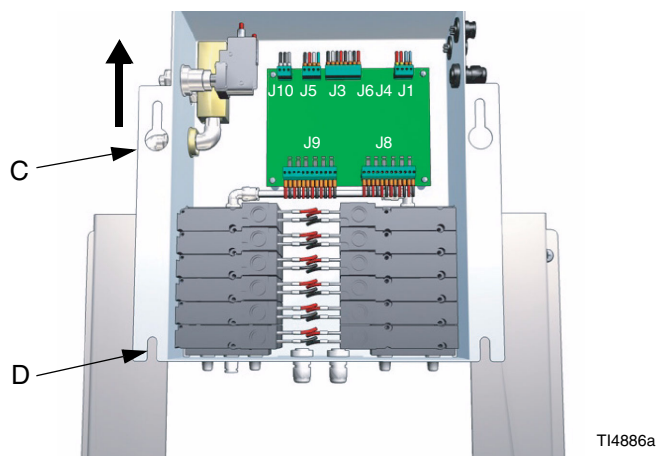

FIG. 2
5. Slide the panel (C) until its bottom slots (D) align with the top screw holes and secure the box in place with the 2 screws. FIG. 2.